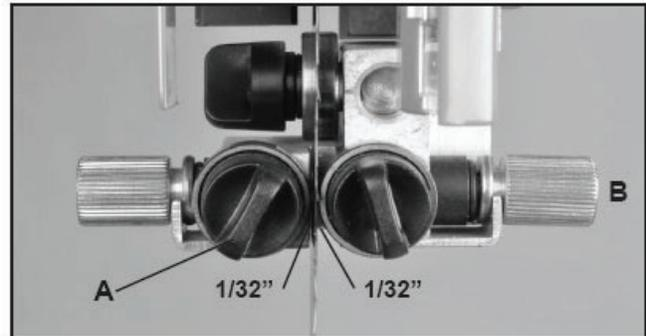

FIGURE 22
1. Position the right and left guides relatively close to the blade. First, loosen the front Locking Knobs. (A, Fig. 22) To move the guides towards or away from the blade, turn the knurled, micro-adjusting Knobs. (B, Fig. 22)
3. Set both side bearing guides to within 1/32" of the saw blade - about the same thickness of a business card (Fig. 22). Do not set the bearing guides too close, or touching the sides of the blade, as this will adversely affect the life of the blade and bearings.